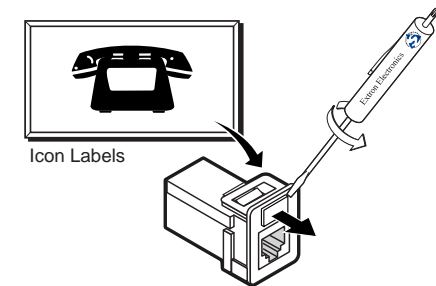

Figure 2-5 — Changing the connector icon
9. If desired, on the front panel, replace the connector icon by prying the old icon off of the bezel plug-in (figure 2-5) with a tweezers and snapping a new icon in place. If needed, four spare screws are stored in the underside of the enclosure.